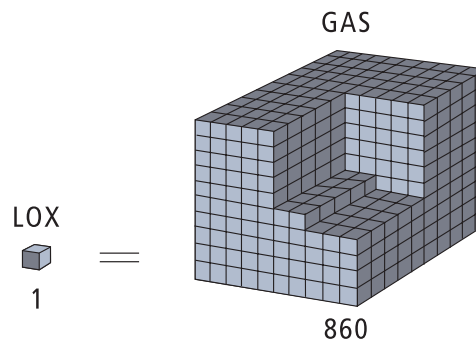

Figure 1-4: Liquid Oxygen Expansion Ratio
- Liquid oxygen at atmospheric pressure expands at a ratio of approximately 860:1 (at 0 psig) when vaporizing into a gas (Figure 1-4). This can occur very rapidly when exposed to the heat in the atmosphere.